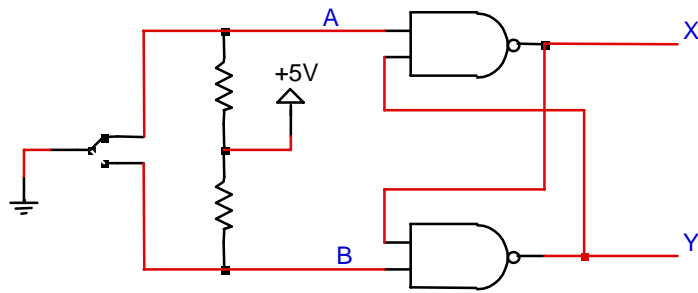

Figure 3
b) Use the circuit to build a bounceless switch as shown in Figure 3. Mechanical switches typically “bounce” when switched—meaning when they transition from open to closed or vice versa, they make several very fast transitions. For example, a switch may transition open -> closed -> open -> closed when it is closed once.
Do6: Explain why the circuit in Figure 3 is bounceless and compare it with a mechanical switch.